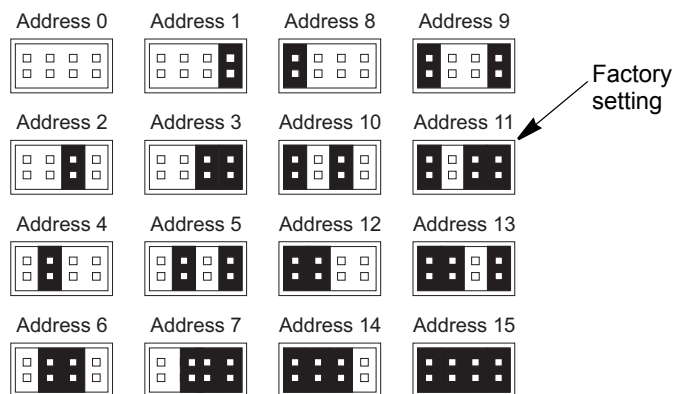

Figure 3-2 SCSI ID settings
- a. The tape drive is shipped with a SCSI ID of 11. If another device on the SCSI bus is already configured with this SCSI ID, you will need to change the tape drive's SCSI ID. Reposition the jumpers on the jumper block, as shown in Figure 3-2, to select the desired ID. (If necessary, use flat-nose pliers to remove the jumpers.) If you need an additional jumper, use a 2 mm jumper.